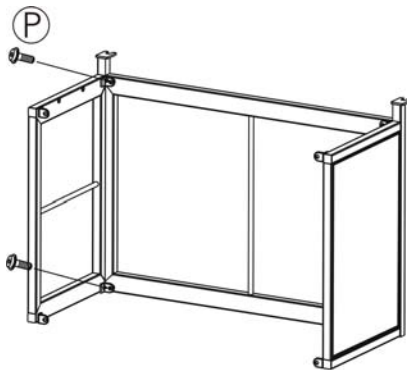

Figure 3a
3. Attach the two side panels to the back panel by using four 1/4"x20 mm bolts as shown in Figure 3a. Hand tighten only 2-3 turns. Repeat for the front panel.